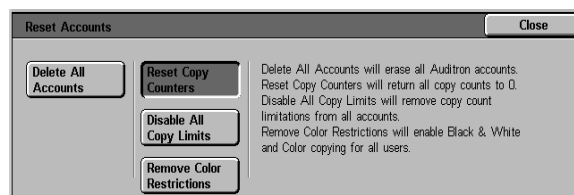

Figure 32: Reset Copy Counters button
- 3 Touch the **Reset Copy Counters** button if you want to reset all the copy counters for all the user accounts to zero, Figure 32.